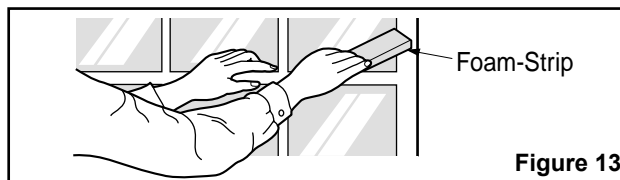

Figure 13
8. Cut the Foam-strip to the proper length and insert between the upper window sash and the lower window sash.(See Fig. 13)